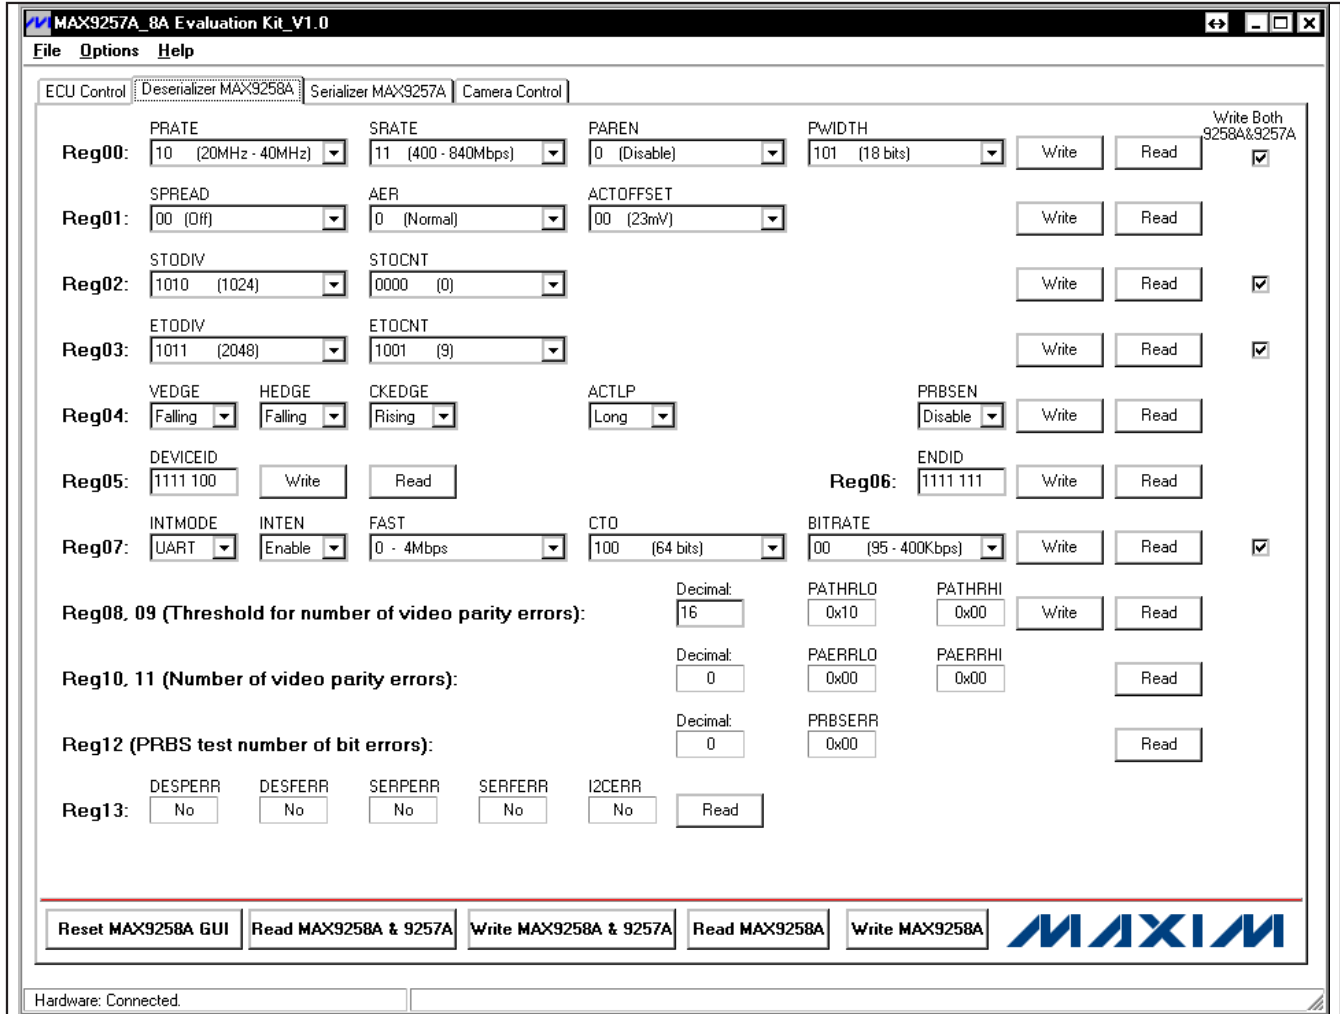

Figure 4. MAX9257A/MAX9258A Evaluation Kit Software—Deserializer MAX9258A Tab
- 17) Click on the **Deserializer MAX9258A** tab to move to the **Deserializer MAX9258A** tab sheet (Figure 4).
On the **Deserializer MAX9258A** tab sheet (Figure 4), the ECU can write or read all registers on the MAX9258A by pressing the **Write** or **Read** buttons on the right of each register. Refer to the MAX9257A/MAX9258A IC data sheet for the definition of each register.
- 3) Navigate to the **Deserializer MAX9258A** tab sheet (Figure 4). Press the **Read MAX9258A & 9257A** button to refresh the current register values on the GUI.